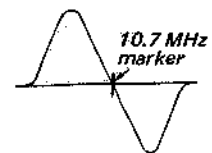

Fig. 3-4. "S" curve
3. Turn the core of discriminator transformer (IFT F5) to obtain the S curve response shown in Fig. 3-4.